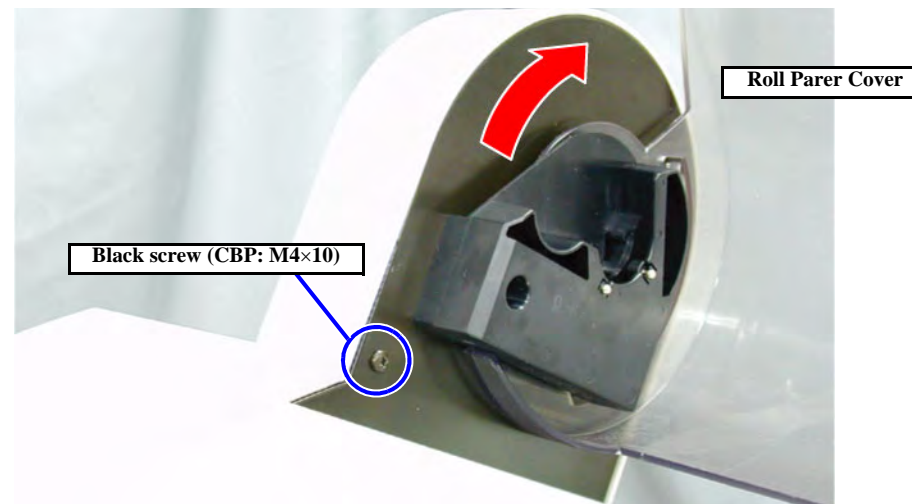

Figure 4-11. L Side Cover Removal 1/2
1. Open the roll paper cover. (See Figure 4-11)